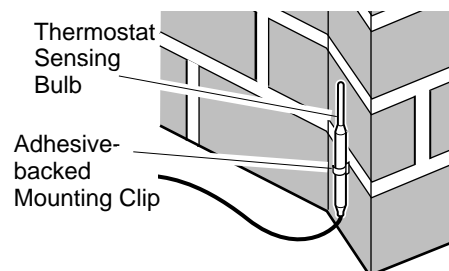
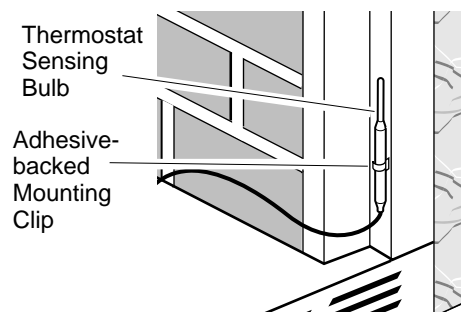
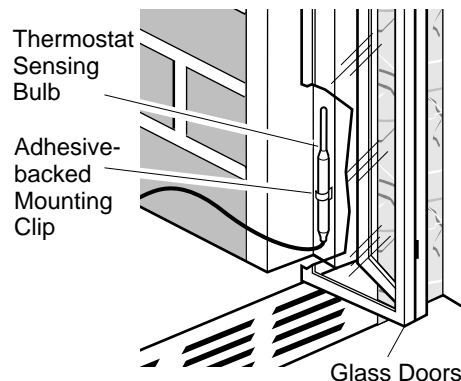

Figure 33 - Locating Thermostat Sensing Bulb on Masonry Fireplace
Figure 34 - Locating Thermostat Sensing Bulb on Factory-built Metal Fireplace
Figure 35 - Installing Thermostat Sensing Bulb behind Glass Doors
3. The thermostat sensing bulb may be located to the lower right front side of fireplace. Determine location of sensing bulb, but do not mount sensing bulb until step 5. If you have a masonry fireplace, see Figure 33 for location. If you have a factory-built metal fireplace, see Figure 34 for location. If your fireplace has glass doors, position sensing bulb directly behind door gap on right bottom side (see Figure 35).